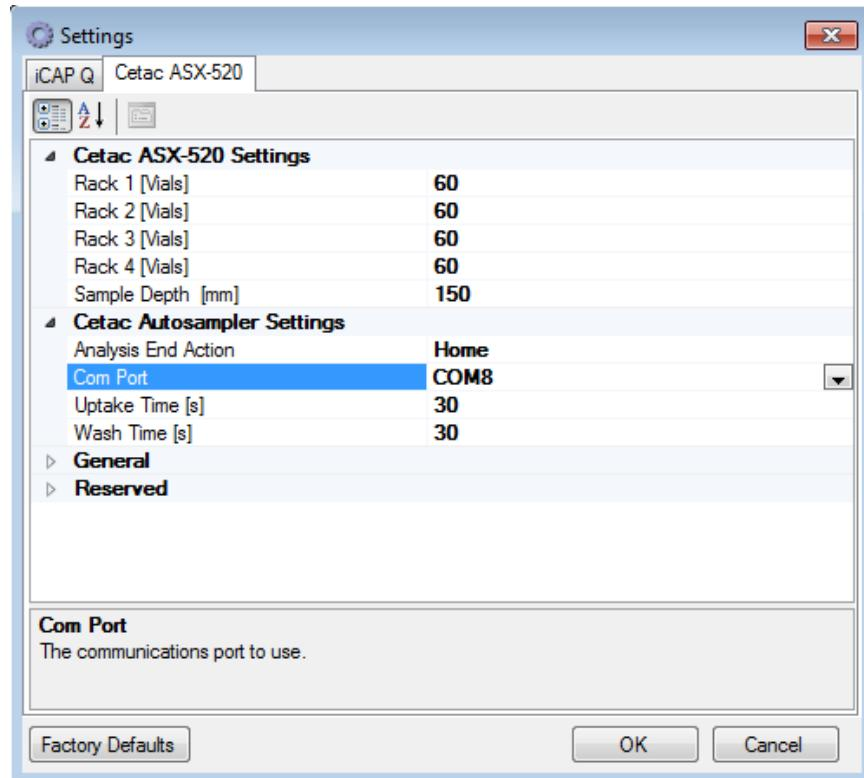

Figure 38: Edit autosampler settings.
- 14) Next, right-click the newly added **Cetac ASX-520** and select **Edit Settings...** here you will configure the default racks to be used, these must match what was selected in ESI SC. Set the **Com Port** to COM8 (matching the “**Instrument COM Port**” in ESI SC). See Figure 38. Click **OK** and then **Save** your new configuration.